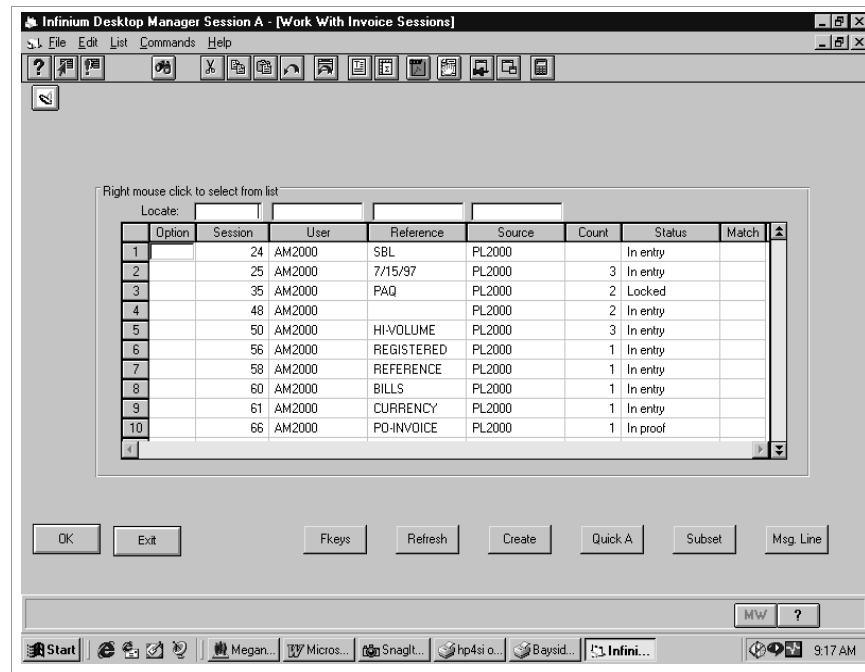

Figure 7-2: Work With Invoice Sessions screen
- 2 Select *Work with invoice entry* [WWI]. The system displays the screen shown in Figure 7-2.